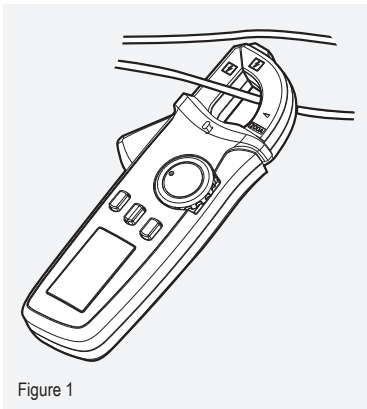

Figure 1
- Enable the function by pressing the **MAX/MIN** button (3). Disable the function by pressing the **MAX/MIN** button for approximately 2 seconds. The values on the display disappear.
- Press the **REL** button (6) to enable the function. **< REL >** appears on the display. Press the **REL** button again to turn the function off. **< REL >** disappears from the display. The benchmark value is reset when the function is turned off.
- ➔ Only ever cover one conductor with the current clamp (figure 1). No measurement reading will be obtained if you cover more than one conductor.
2. Open the clamp (1) using the opening lever (8), cover the conductor (which you wish to measure) and then slowly close the clamp until it is fully closed.